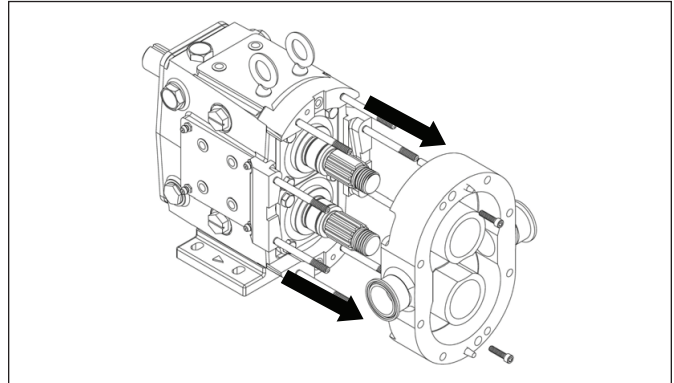

Figure 27. Removing Pump Body
5. Remove the two body hold-down bolts using the appropriate driver. Pull the pump body off by sliding it along the studs (*Figure 27*). If the body is stuck, use a soft mallet to tap the body. Inspect the body for excessive wear, clean, and continue on to seal maintenance. It is important to reassemble the pump body back onto the original gear case because the shafts are shimmed for that particular body.